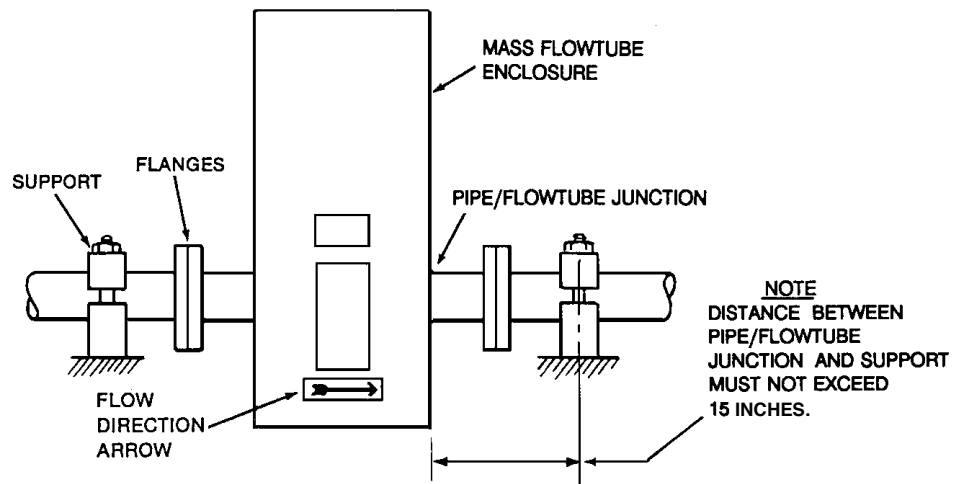
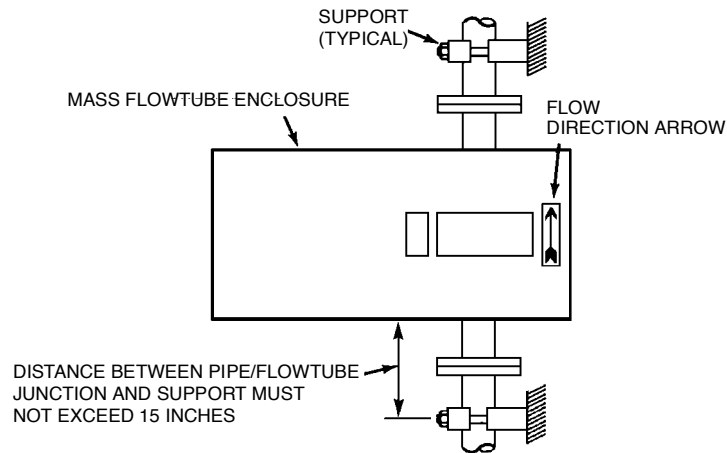

Figure 3. Flowtube Mounting with Flanged End Connections - Horizontal Pipeline
Figure 5. Flowtube Mounting with Flanged End Connections - Vertical Pipeline
- ◆ Standard practice is to mount the flowtube on a horizontal pipe as shown in Figures 3, 4, and 6. For self-draining, or if process fluid contains gas bubbles, the flowtube should be mounted on a vertical pipe as shown in Figures 5 and 6.
The flowtube may be mounted horizontally or vertically as shown in Figures 3 through 6. When mounted vertically (as in self-draining applications), the direction of flow must be upward to minimize the incidence of trapped air. All of the following steps apply to both horizontal and vertical mounting.
- 1. Each support must contact flowline as close to the junction of pipe and flowtube enclosure as practically possible. For flowtubes with flanged end connections (Figure 3 and Figure 5), the distance between each support and the junction must not exceed 15 inches.*